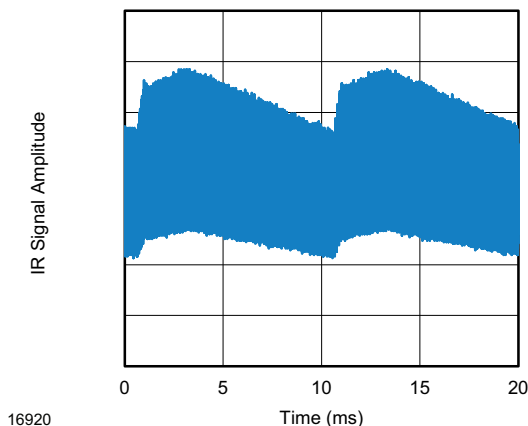
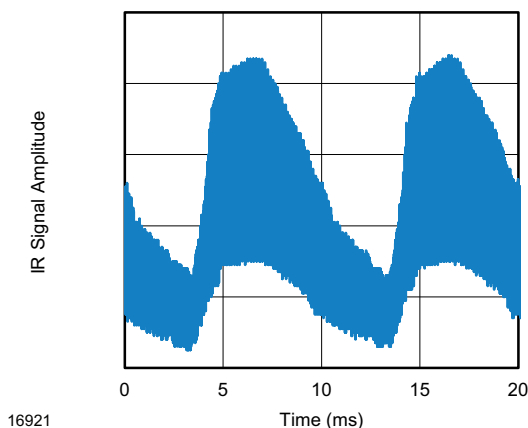

Fig. 13 - IR Signal from Fluorescent Lamp With Low Modulation
Fig. 14 - IR Signal from Fluorescent Lamp With High Modulation
- Strongly or weakly modulated patterns from fluorescent lamps with electronic ballasts (see Fig. 13 or Fig. 14)
| Suppression of interference from fluorescent lamps                         | Mild and complex disturbance patterns are suppressed (example: signal pattern of Fig. 13 and Fig. 14) | Critical disturbance patterns are suppressed, e.g. highly dimmed LCDs |